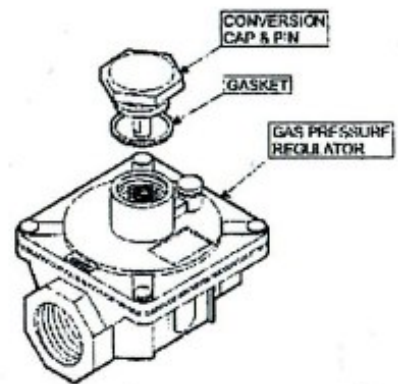

Fig. 1 Gas Pressure Regulator
- This procedure converts "HD" model appliances to use propane (LP) gas.
2. Reconfigure Pressure Regulator (see fig. 1 & 2 at right):